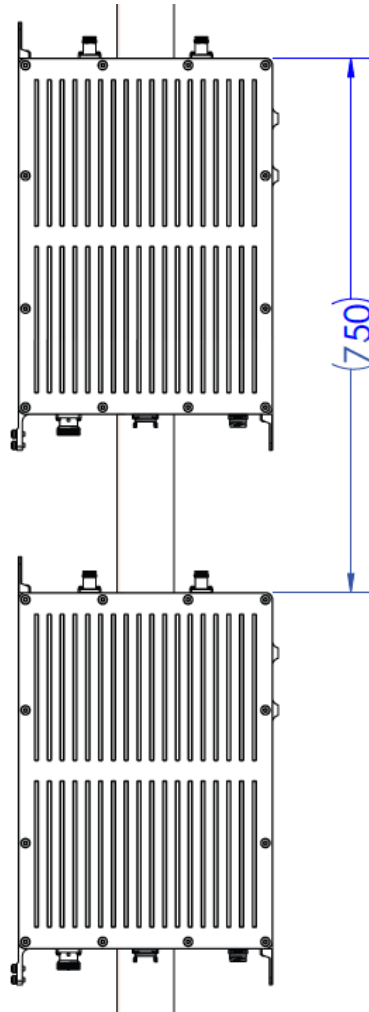

Figure 4-27 Installation spacing
4. If two devices need to be installed on the same pole, the spacing between the two devices should be 750mm, as shown in Figure 4-27.